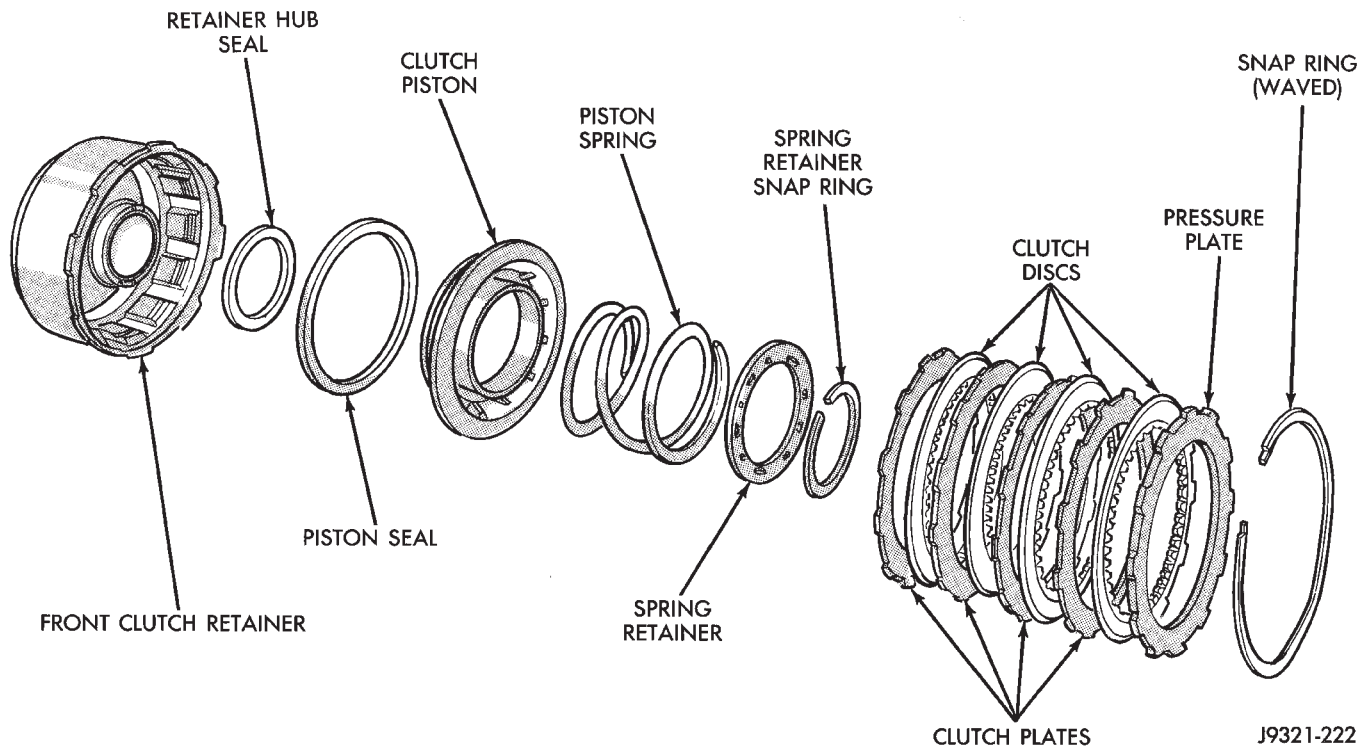

Fig. 62 Front Clutch Components (30RH/32RH)
(1) Remove waved snap ring and remove pressure plate, clutch plates and clutch discs (Fig. 62).
(8) Install clutch plates and discs (Fig. 62). Install steel plate then disc until all plates and discs are installed. 30RH and 32RH transmissions both require 4 clutch discs.
(9) Install pressure plate and waved snap ring (Fig. 62).